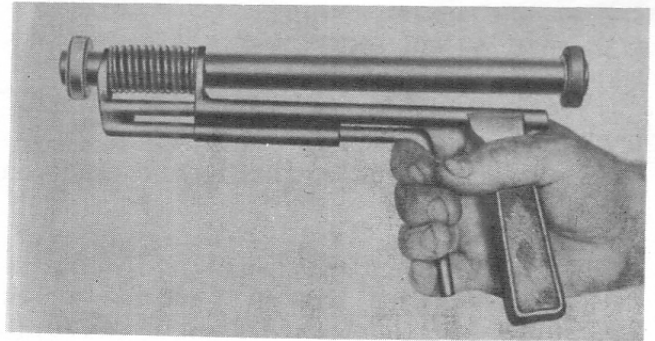

FIGURE 8-11. PUSHROD HOUSING AND SPRING COMPRESSOR.
- d. To install each pushrod housing (14) compress spring (15) and place packing (17) between two steel washers (16) on that end of housing. Insert this end of housing into crankcase guide until other end and its seal ring can be aligned with cylinder
head opening. Move assembly outward until packing (17), sandwiched between two steel washers (16), has entered cylinder hole. Release spring slowly until it is free and remove compressor (See Figure 8-11).